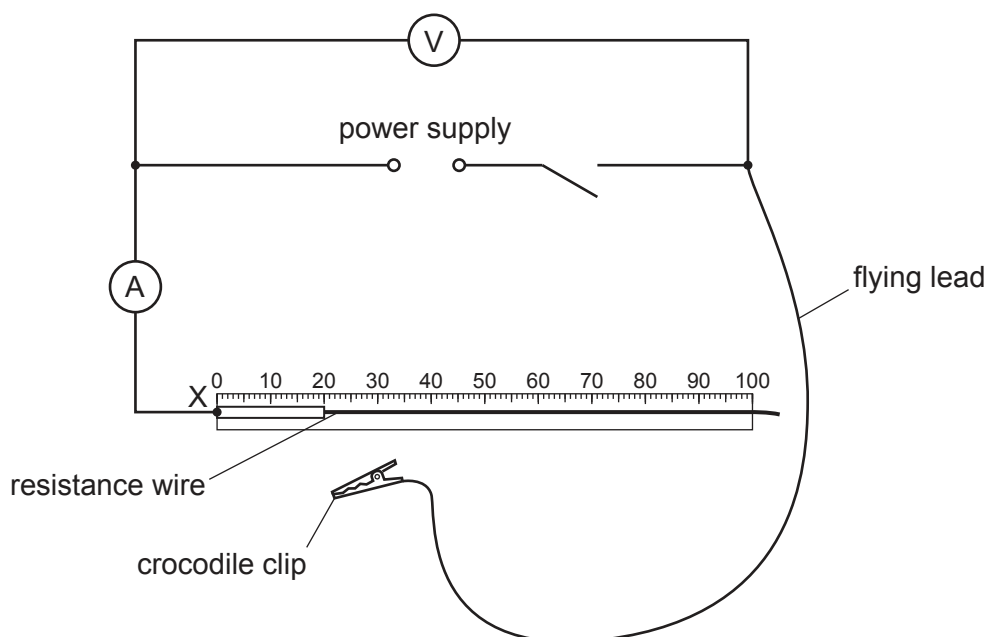

Fig. 3.1
The supervisor has assembled the circuit as shown in Fig. 3.1.
- (g) Another student decides to connect the crocodile clip in Fig. 3.1 so that there is only a very small length of the resistance wire included in the circuit. The teacher tells the student **not** to do this.